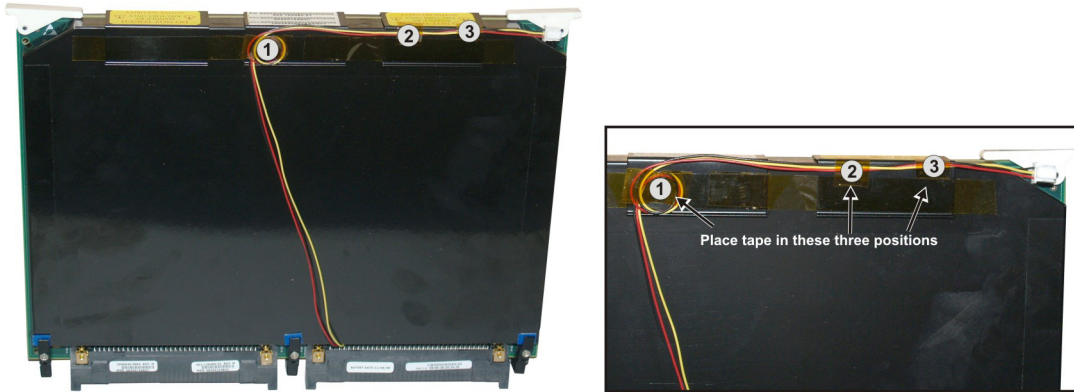

Figure 3 Routing Battery Harness
4. Ensure the battery harness is routed, as shown in **Figure 3**. If the battery harness is not routed in this way, coil the wire and position the harness as shown, and secure the harness to the metal clips using tape.